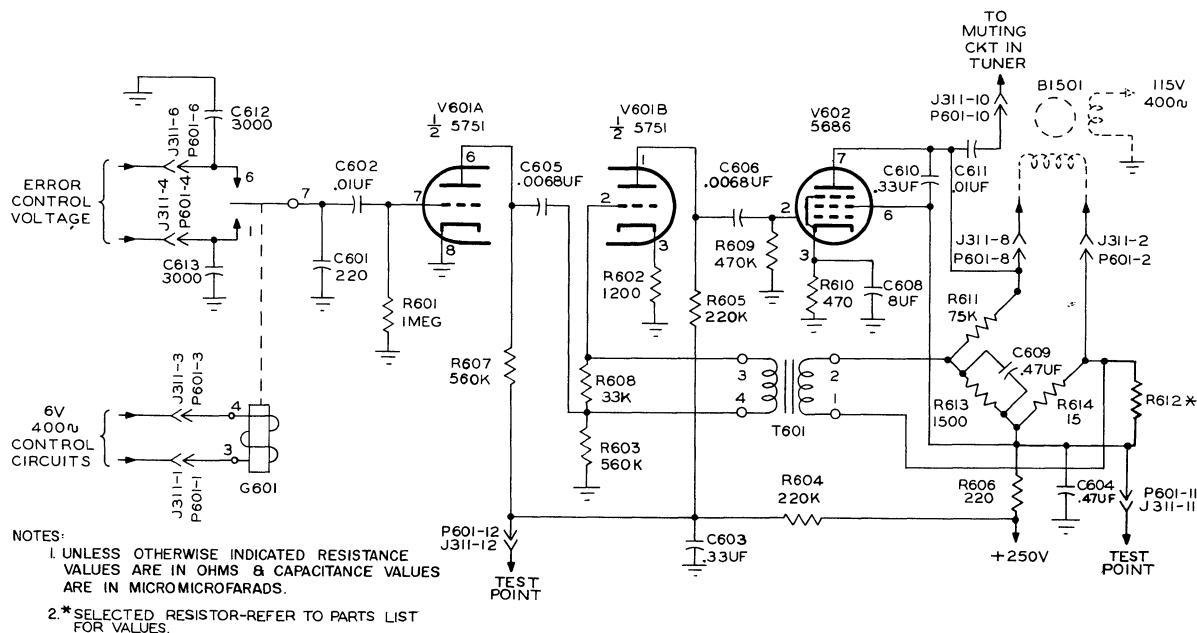

Figure 4-35. PA Servo Amplifier, Simplified Schematic Diagram
4.9.9.2 CIRCUIT DESCRIPTION. The following description covers the simplified schematic diagram of the PA servo amplifier shown in figure 4-35. The circuit elements of the tuner servo amplifier are identical except for external components. The differences will be discussed in paragraph 4.9.9.4. Output from the phase discriminator operating around the power amplifier stages is fed to chopper G601. Capacitors C612, C613, and C601 are bypass capacitors to keep stray pickup on the input leads at a minimum. The chopper acts to convert the input signal into approximately square pulses of 400-cycle signal. This signal is coupled to the grid of V601A through capacitor C602. Capacitor C602 isolates the grid of V601A from the ground reference of the chopper. This allows the grid of V601A to swing either way from the average value or center line of the square wave input from the chopper. This doubles the signal amplitude which can be applied to V601A without exceeding its grid base. The signal is amplified and appears across plate load resistor R607. The signal voltage then is coupled through capacitor C605 to the grid circuit of V601B. Resistor R603 is the grid resistor for V601B. Also in the grid